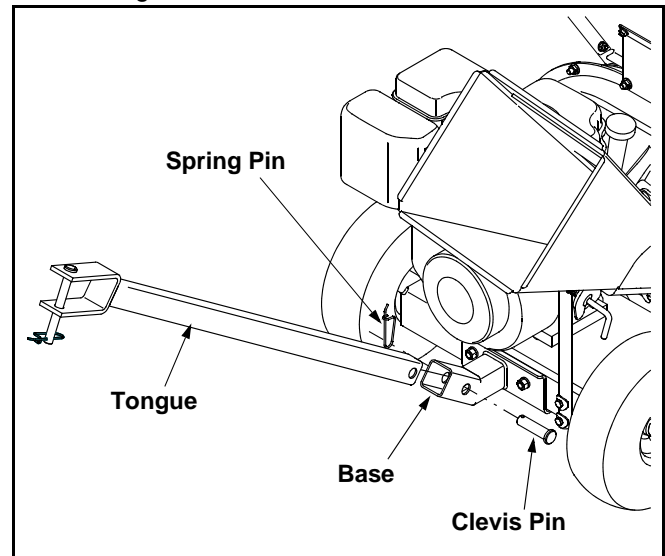

Figure 3
- To attach the tow bar, remove the spring pin and clevis pin from the end of the tongue. See Figure 3.